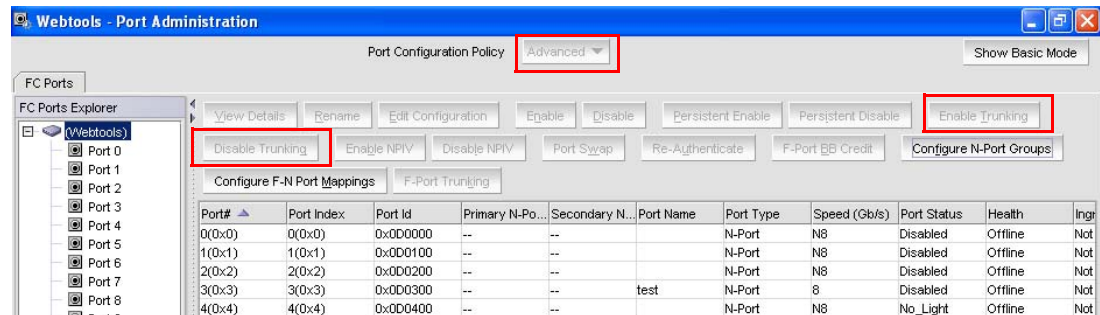

FIGURE 50 Port Configuration Policy disabled
- **Port Configuration Policy** – Configuring the Auto or Advanced mode under Port Configuration Policy is disabled as shown in Figure 50.
- **Enable Trunking and Disable Trunking** – Enabling and Disabling of N_Port trunking is disabled as shown in Figure 50.